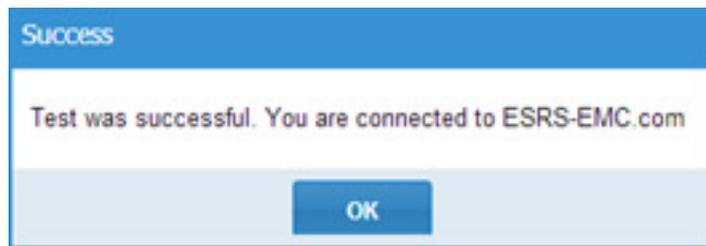

Figure 40 Success message
2. If you connected successfully, then a success test message appears, as shown in Figure 40 on page 42. Click **OK**.